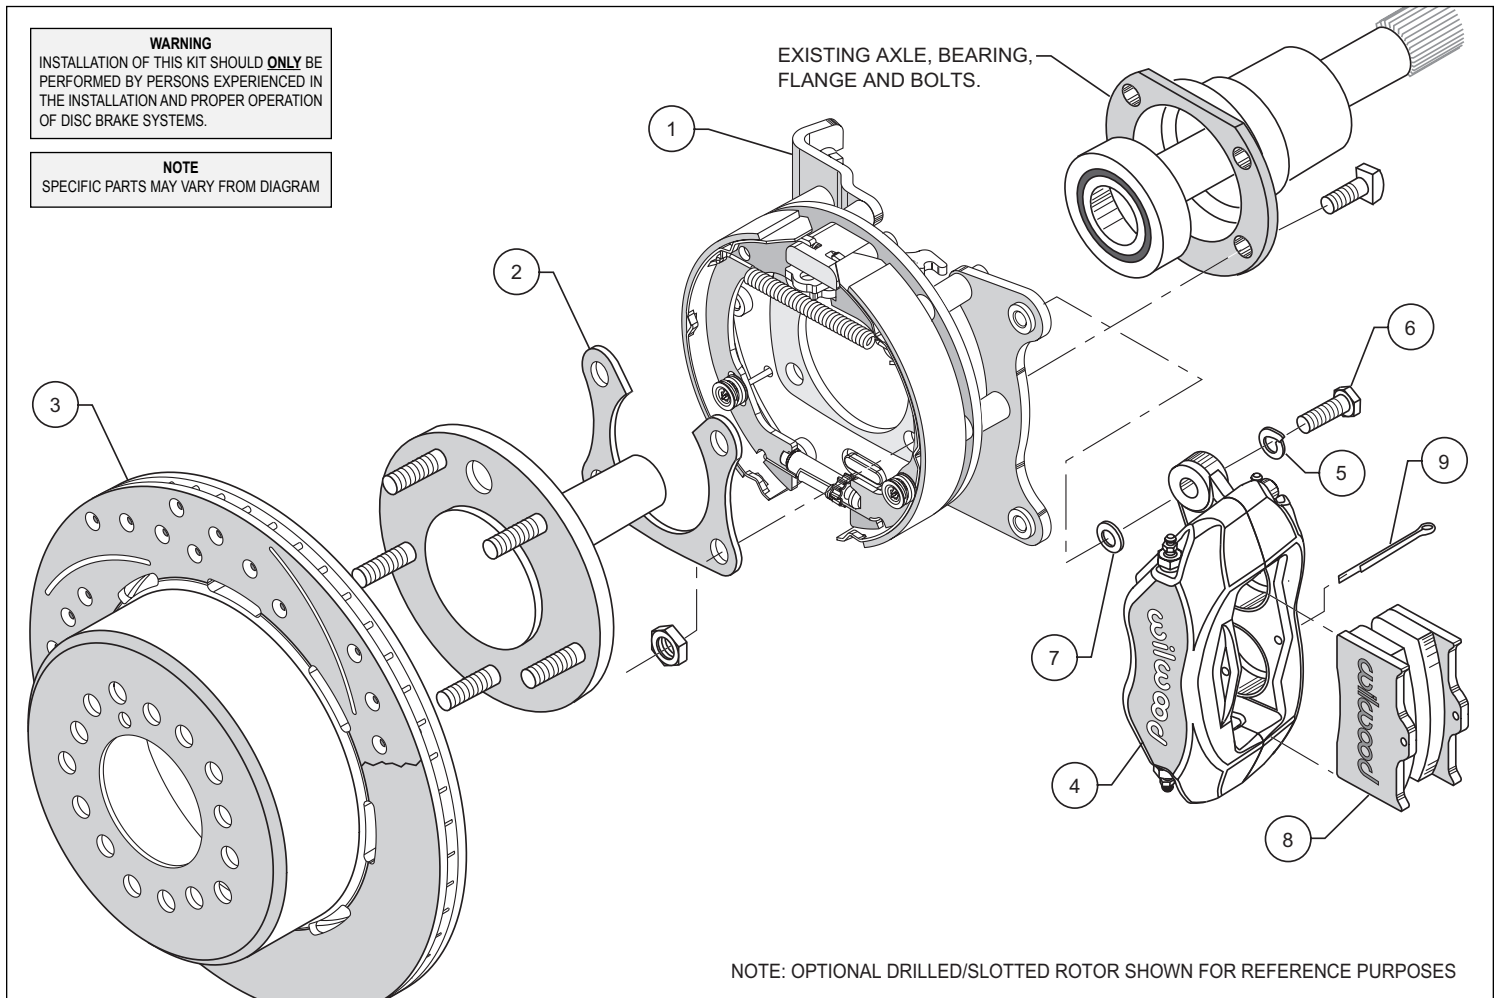

Figure 1. Typical Installation Configuration
- Full Circle Retainers** require the utilization of a qualified machine shop to press off the axle bearing and OEM retainer. Then have machine shop install new retainer (2), supplied with bracket kit with lip facing toward bearing, reference Figures 1, 4 and 5 (we suggest that you install a new bearing at this time, not supplied with kit).
- "U" Retainers** require the removal of the OEM retainer by cutting or grinding a notch in the retainer to facilitate removal. Once OEM retainer is removed, install new retainer (2) supplied with bracket kit with the "U" opening facing up and the lip facing toward bearing, reference Figures 1, 4 and 5.